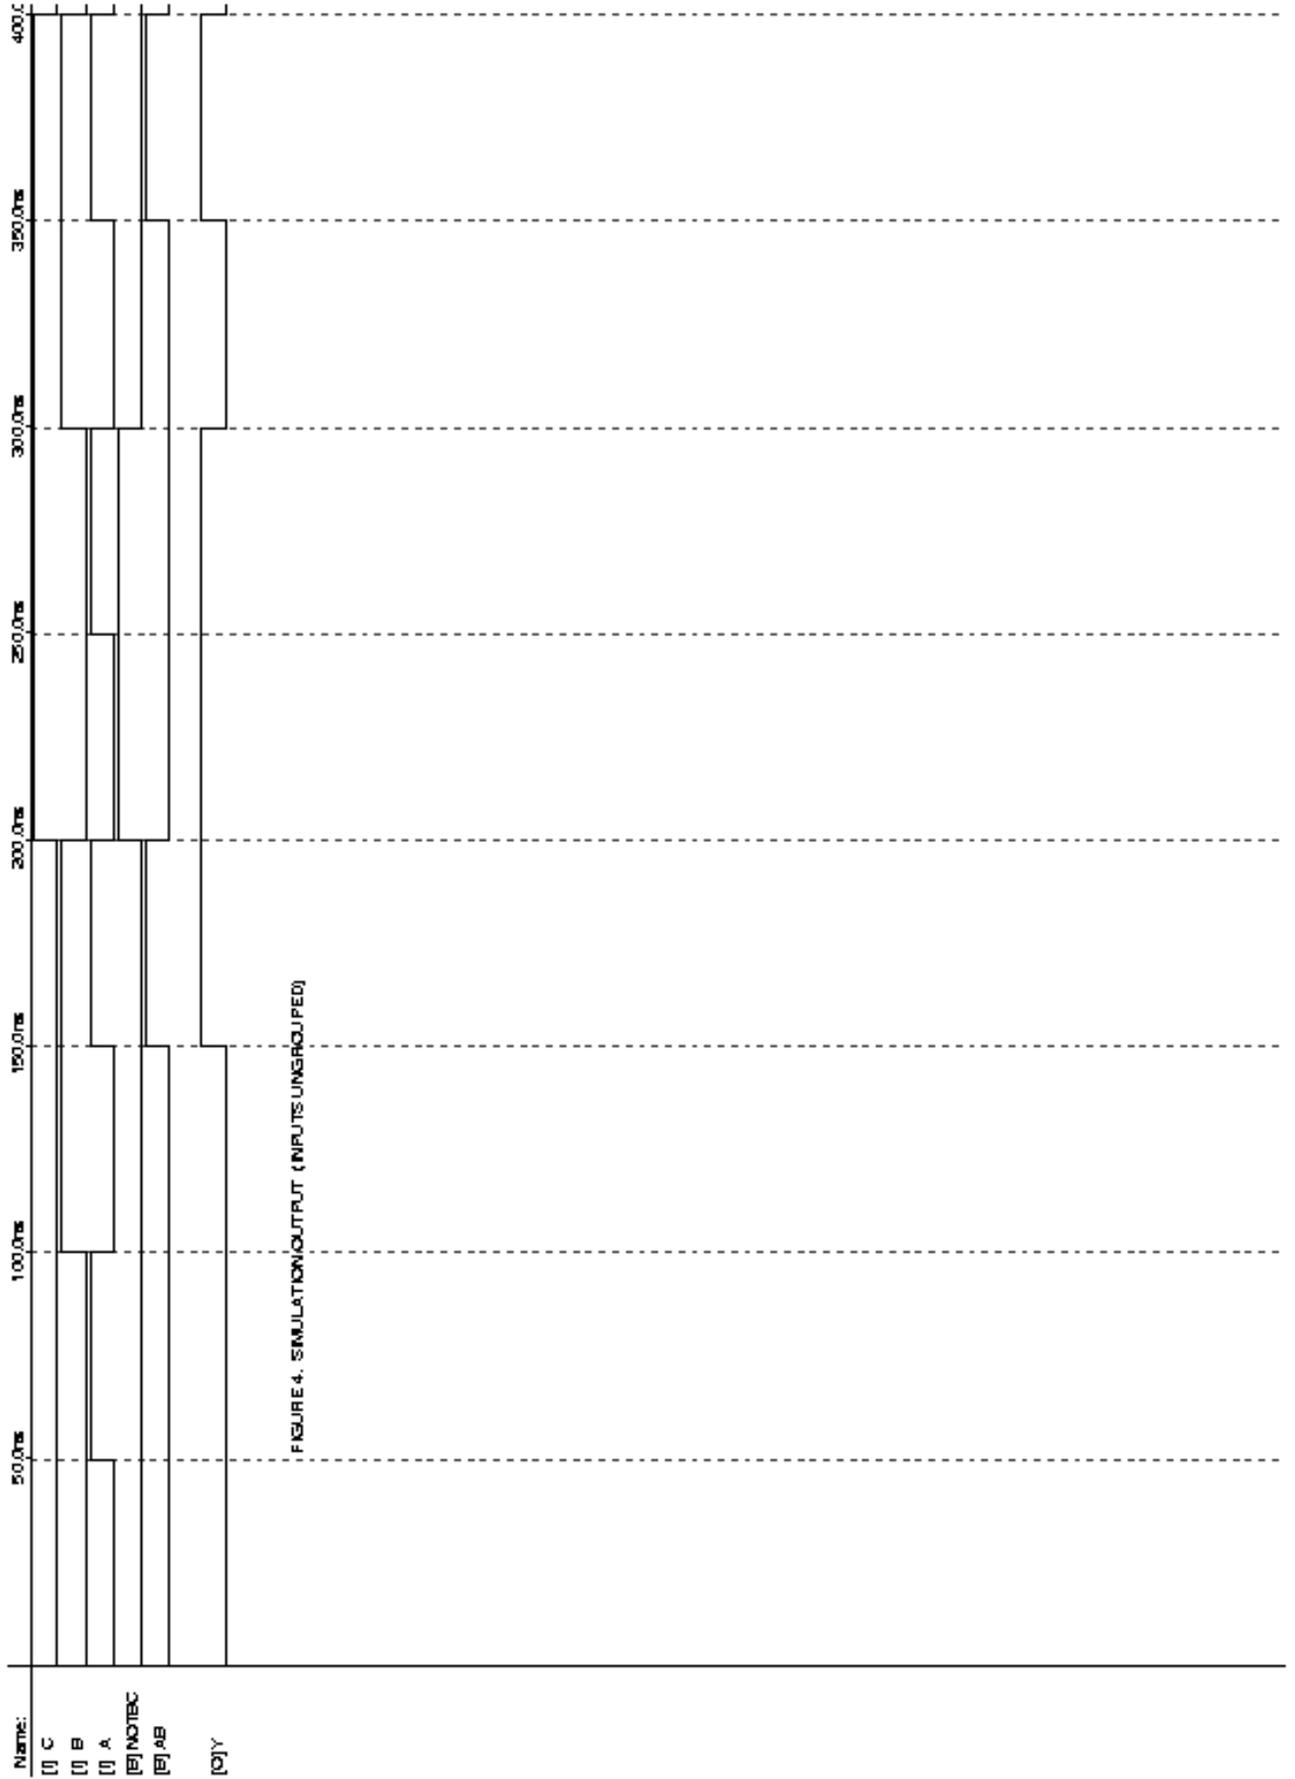

FIGURE 4. SIMULATION OUTPUT (INPUTS UNGROUPED)
- Highlight C, B and A in the Waveform Editor and then right-click and select **Group**. Give the group a name such as CBA, which identifies the order the signals were grouped. (You can verify the order later.) With the group highlighted, click the right mouse button to bring up a pop-up menu and select Value -> Count Value. This will generate all 8 possible input combinations for the input signals. At this point, you can Ungroup your inputs to check that the name accurately reflects the group. For example, when CBA = 1, signals C and B should be 0 and A should be 1. You can simulate with the signals either grouped or ungrouped, whichever you prefer. See Figure 4 for an example simulation output with the input signals ungrouped.